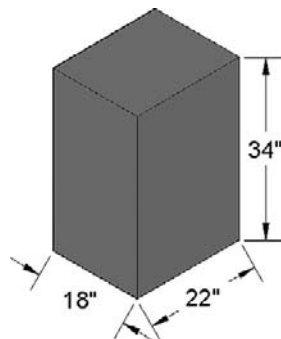

FIGURE 25.18
Step 1. Clear your screen of previous work, and make sure you are in the SW Isometric view. Starting from the beginning, draw a 22" × 18" rectangle and extrude it to 34". The result is a block of material similar to what we just created when we practiced the taper command. It is shown shaded and with a different color in Figure 25.18.